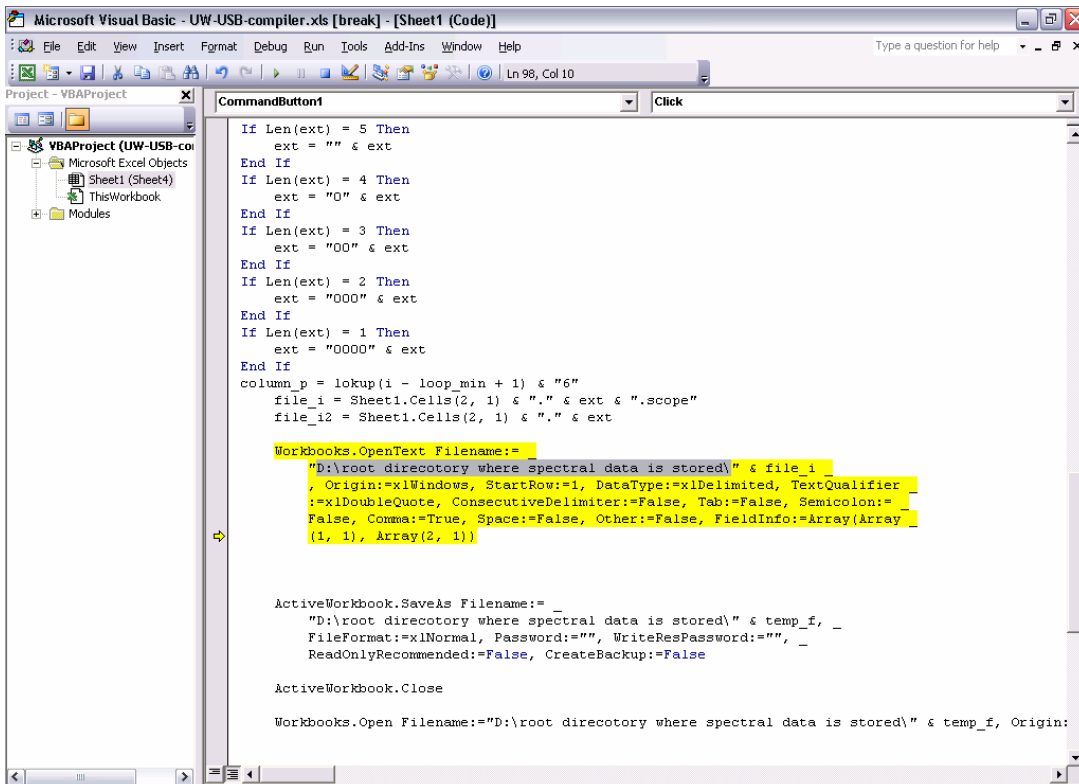
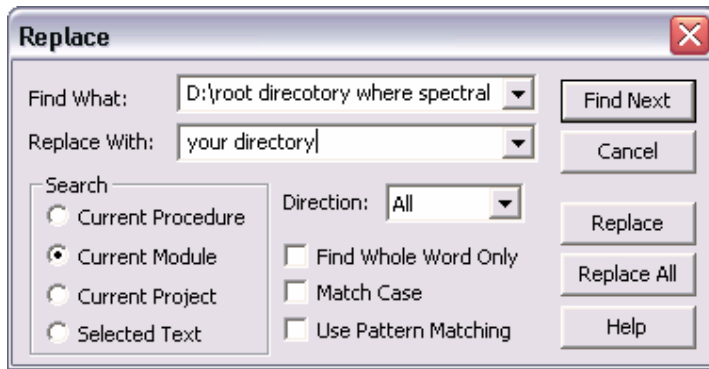

Figure 15 Macro editor
Figure 16 Replace root directory
8. See Figure 15 and Figure 16, Replace the sentence "D:\root directory where spectral data is stored\' with the data directory where the spectra is stored. This should happen on three places.